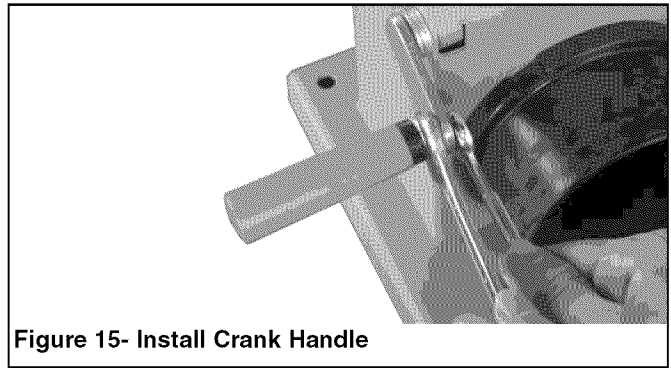

Figure 15 - Install Crank Handle
- Attach the crank handle to the belt tension crank arm with the M6 hex nut (see Figure 15).